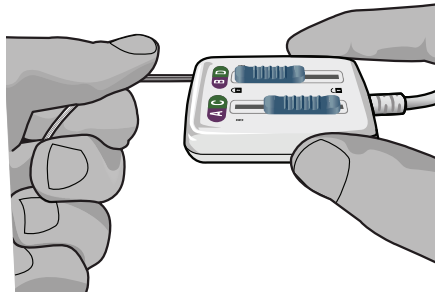

Figure 6: Securing the DBS Lead into the 2x8 OR Cable Connector
6. Push the end of the DBS Lead into the port until it stops. Hold the DBS Lead in place while sliding the locking lever to the locked () position (Figure 6).